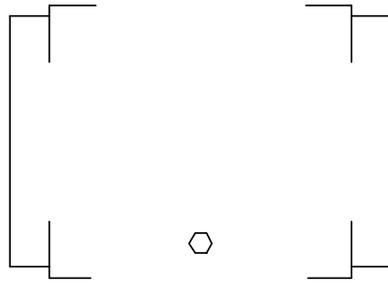

Figure 5-3: KC1000 Air/Fuel Valve In Purge Position
- (b) Air/Fuel Valve rotates to the full-open purge position and closes purge position switch. The dial on the Air/Fuel Valve (Figure 5-3) will read 100 to indicate that the valve is full-open (100%).
The Air/Fuel Valves shown in Figures 5-3 and 5-5 are used on KC Series units. Although slight physical differences exist between the Air/Fuel Valves used on Benchmark Series units, the valves are functionally identical.